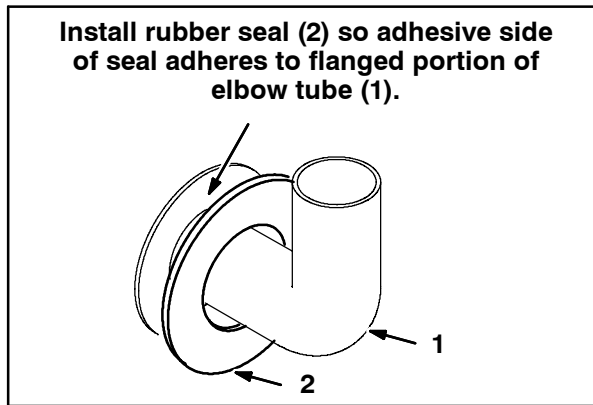

FIG. 3
5. Orient the rubber seal (2) so the adhesive side of the seal touches the flanged outer rim of the elbow tube (1) and install the seal onto the flanged edge of the tube. Refer to Fig. 3.